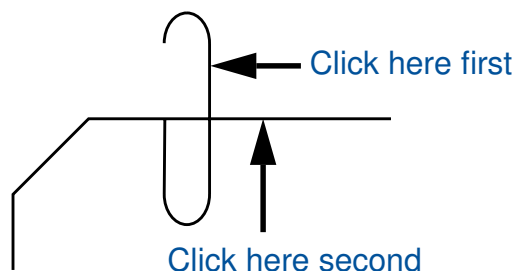

Figure 2-34. Trimming the Second Line of the Slot
5. Trim the right vertical line of the slot down to meet the horizontal line of the rectangle. You need to indicate your first point as being the upper half of the vertical line of the slot, and the second point as the horizontal line of the rectangle, as shown in Figure 2-34.